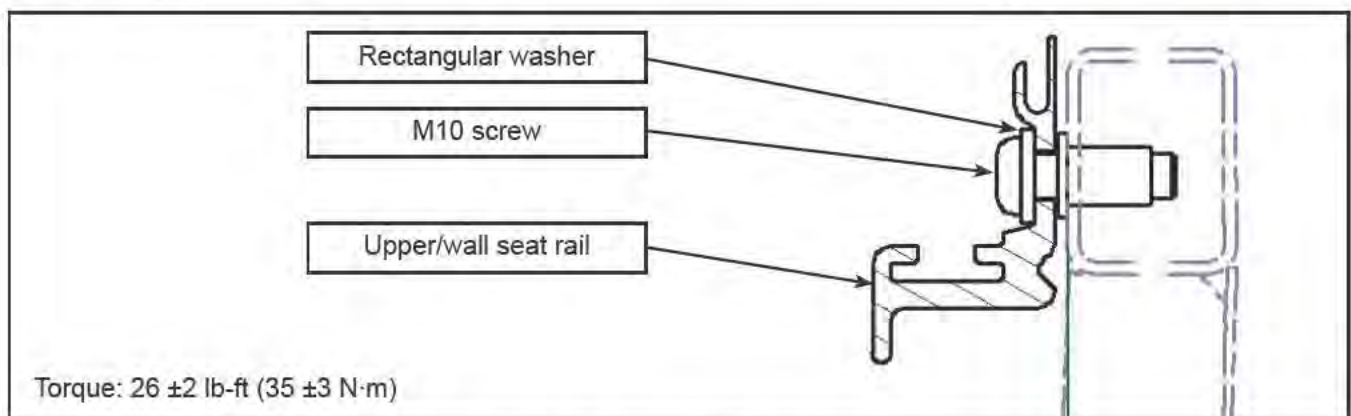

Figure 13 - Upper/Wall Seat Rail
- From the rear to the front, make a first tightening to the torque value shown in Figure 13.